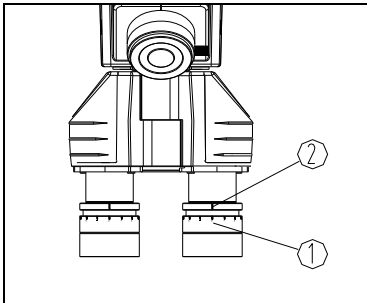

Fig. 18
Turn the diopter ring ① on the eyepiece to make "0" position accordance with level ② to make the image clear. Then observe through another eyepiece. If you can not get clear image, you can turning the diopter until image clear. (Fig. 18)